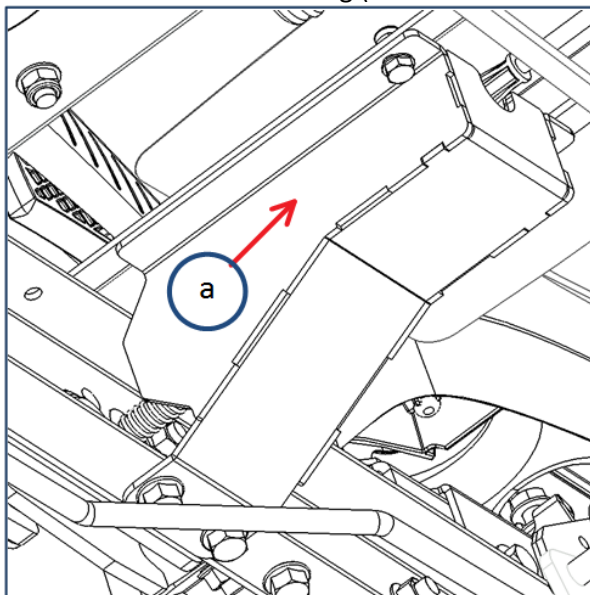

Figure 1: Cassis Stiffener
- Remove the chassis stiffener (Figure 1: [a]) and clear any dirt, leaves, grass collected inside it